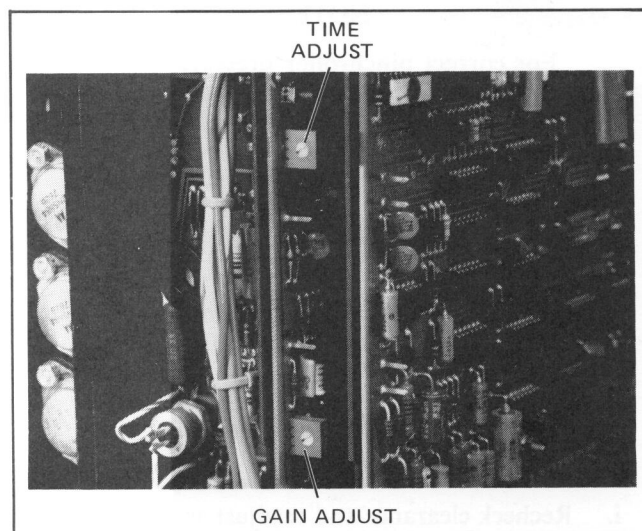

Figure 5-23. Overlap PCA Adjustment
- a. Remove left-hand (viewed from front) side cover on recorder exposing Overlap PCA adjustments (see Figure 5-23).
- d. Connect oscilloscope to test point TP2 (see Figure 5-23).
- g. Adjust GAIN control (see Figure 5-23) for 3V p-p square wave output on oscilloscope.
Overlap recorders are normally adjusted with the TIME potentiometer (see Figure 5-23) fully counterclockwise. At this setting, the first recorder will go into rewind (fast reverse) at 20 ± 10 seconds after the following recorder starts its Forward-RECORD operation. The TIME control is turned clockwise to increase time between the turn-on of the following recorder and a rewind or stop function in the first recorder.